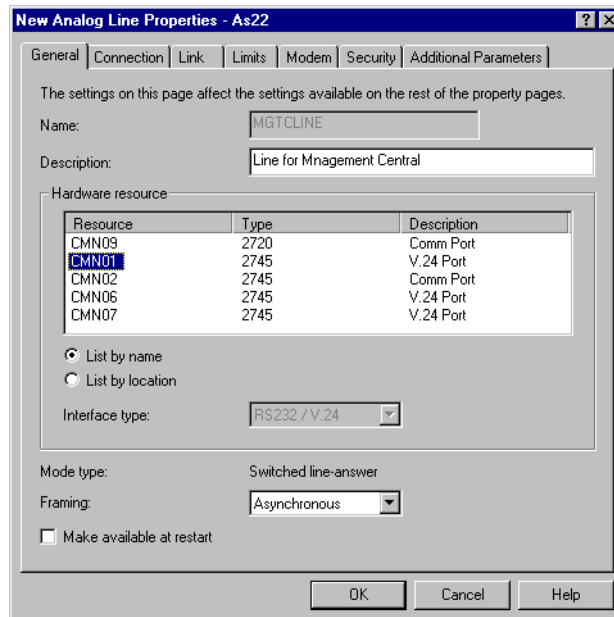

Figure 189. Selecting the connect hardware adapter
- b. You see the New Analog Line properties window as shown in Figure 189. Select the hardware resource and click the **Modem** tab.
- b. The New Analog Line properties dialog box appears the same as shown in Figure 189 on page 217. Select the hardware resource and click the **Modem** tab.